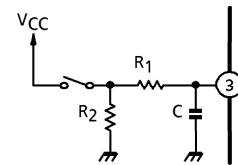

Fig.1 Mode switch circuit
1. MODE SW (pin③)
- It is necessary to connect an external pull-down resistor with the terminal of MODE SW (pin③), in case that this IC mode doesn't operate normally due to external noise etc.
It is advised to connect R₁, R₂ and C with the terminal of MODE SW (pin③), to reduce a pop sound is switchover between single IF mode and dual IF mode (see Fig.1).